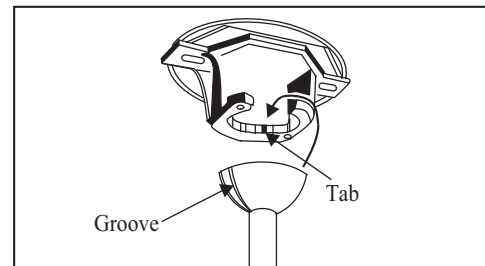

Figure 12
- Carefully lift the fan assembly up to the hanger bracket and seat the hanger ball in the hanger bracket socket. Make sure the tab on the hanger ball is properly seated in the groove in the hanger ball (Figure 12). This will help to balance the ceiling fan.
THE TAB IN THE RING MUST REST IN THE GROOVE OF THE HANGER BALL AS FIGURE 12. FAILURE TO PROPERLY SEAT THE TAB IN THE GROOVE COULD CAUSE DAMAGE TO WIRING.